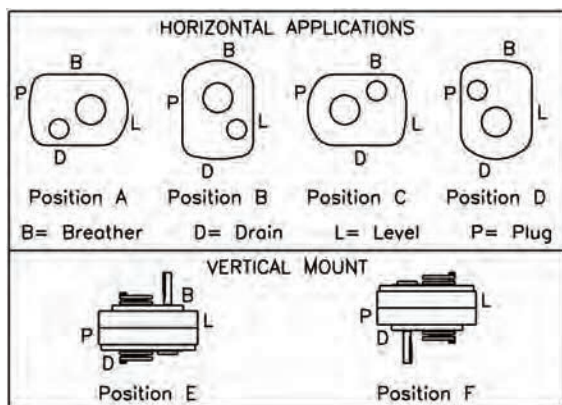

Figure 1 - Mounting Positions
2. Determine the running positions of the reducer. (See Fig. 1)
Vertical Installations - Install the filter/ventilation plug in the hole provided in the upper face of the reducer housing. If space is restricted on the upper face, install the vent in the highest hole on the side of the reducer per Figure 1 using the optional vertical vent kit. Install a plug in the hole in the bottom face of the reducer. Do not use this hole for the magnetic drain plug. Install the magnetic drain plug in the lowest hole on the sides of the reducer. Of the remaining holes on the sides of the reducer, use the plug in the upper housing half for the minimum oil level plug,
Below 15 RPM output speed, oil level must be adjusted to reach the highest oil level plug. If reducer position is to vary from those shown in Figure 1, either more or less oil may be required. Consult Dodge.
The running position of the reducer in a horizontal application is not limited to the four positions shown in Fig. 1. However, if running position is over 20° in position "B" & "D" or 5° in position "A" & "C", either way from sketches, the oil level plug cannot be used safely to check the oil level, unless during the checking, the torque arm is disconnected and the reducer is swung to within 20° for position "B" & "D" or 5° for position "A" & "C" of the positions shown in Fig. 1. Because of the many possible positions of the reducer, it may be necessary or desirable to make special adaptations using the lubrication filling holes furnished along with other standard pipe fittings, stand pipes and oil level gauges as required.
① Oil quantity is approximate. Service with lubricant until oil runs out of oil level hole.
② Refer to Figure 1 for mounting positions.
③ US measure: 1 quart = 32 fluid ounces = .94646 liters.
④ Conversion from quarts rounded values.
⑤ Below 15 RPM output speed, oil level must be adjusted to reach the highest oil level plug. If reducer position is to vary from those shown in Figure 1, either more or less oil may be required. Consult Dodge.
⑥ Consult Dodge for proper oil level for reducers equipped with backstops and which are mounted in either the C position or D position.